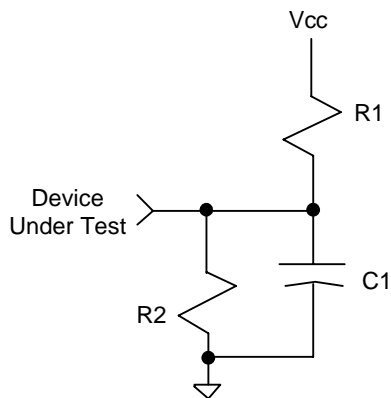

Figure 11: AC Test Load
- With load specified in Figure 11 on page 26, Test Load A.
- With load specified in Figure 11 on page 26, Test Load B.